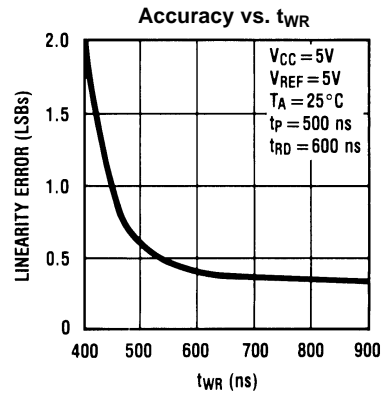
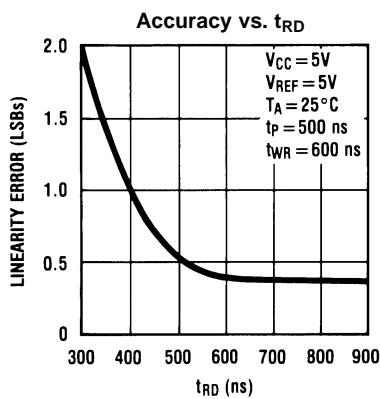

Figure 11.
Figure 12.
- (1) Typicals are at $25^\circ C$ and represent most likely parametric norm.
- (2) Tested limits are ensured to TI's AOQL (Average Outgoing Quality Level).
- (3) Design limits are specified but not 100% tested. These limits are not used to calculate outgoing quality levels.
- (4) Accuracy may degrade if t_{WR} or t_{RD} is shorter than the minimum value specified. See Figure 11 and Figure 12 graphs.